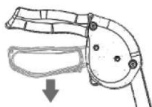

Fig. 6 (locked state)
1. Push down the bottom of the brake handle as shown until you hear a click (Fig.6)